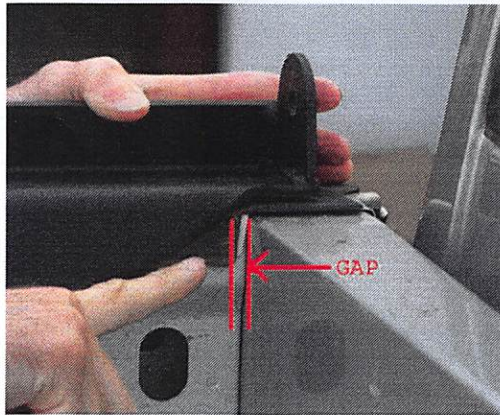

Figure 7: The 1/4" gap between the rail and bed
Step 9: To ensure no damage to the vehicle leave approximately a 1/4" gap between the rail and front of the bed. Figure 7 shows how big the gap should be between the rail and bed.